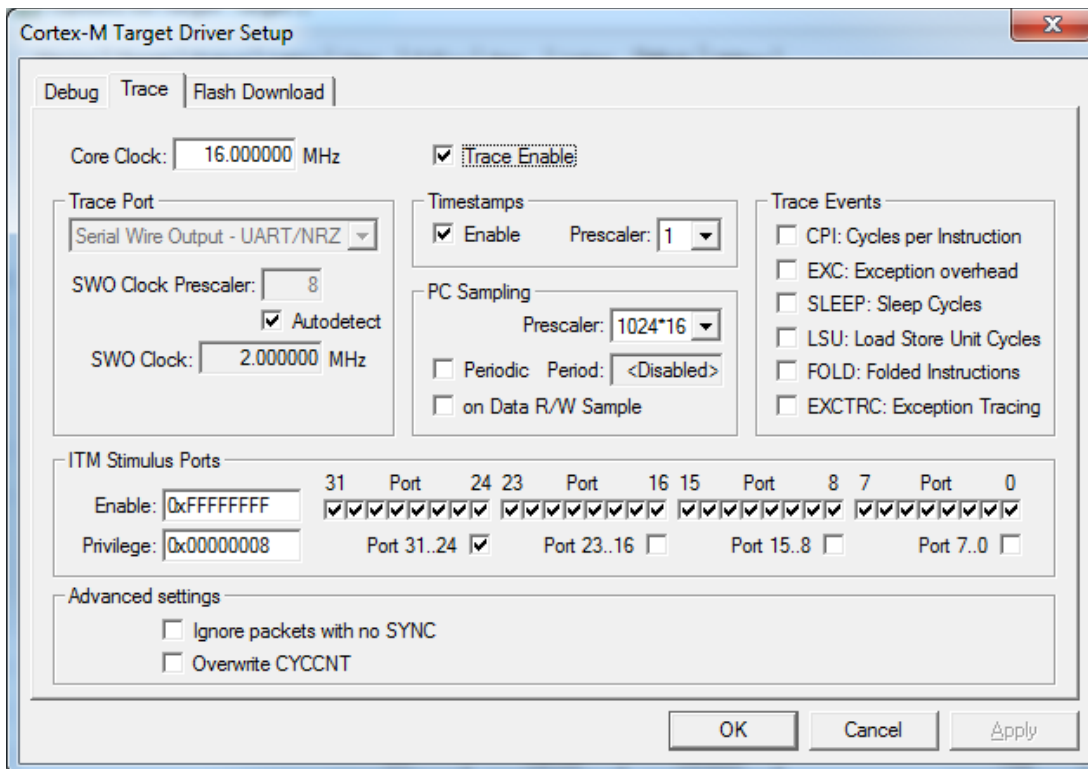

Figure 1. Enter Core Clock frequency, select Trace Enable, unselect Periodic and EXCTRC.
1. Open *Options for Target*, select the Debug tab, click on Settings (next to the box showing ST-Link Debugger), and select the *Trace* tab (see Figure 1 on next page). On this tab, elect Trace Enable, unselect Periodic and EXCTRC, enter 16 as the Core Clock frequency (in MHz), and click OK. Note that the default startup files for our board configure the system clock to run at 16MHz.